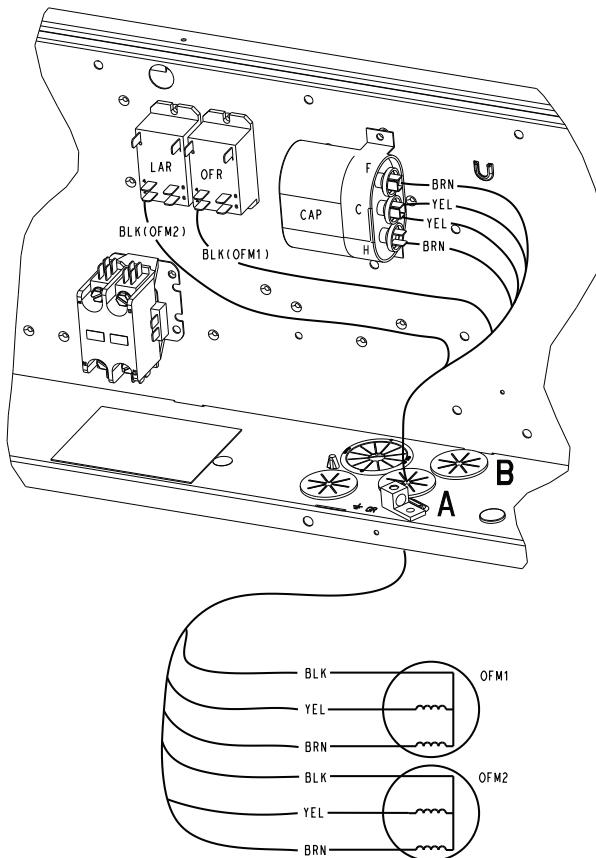

Fig. 2 — Cabinet A — Motor Wiring Inside Control Box
4. Disconnect condenser motor wires from control box connections. See Fig. 2 for connections.
6. Connect the yellow and brown wires from the new motor(s) to the condenser capacitor. Connect the black wires to the same location removed in Step 4 and Fig. 2.
- a. Route HV harness through the hole marked "B" in Fig. 2, with the heat shrink yellow wire end going into the control box.